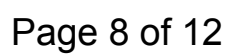

Fig: 1.5 Circuit Diagram for Familiarisation of Wattmeter
- 1) Make connections as shown in Fig.1.5 using the lower current range and lower voltage range of wattmeter.
- 4) Change the current coil setting to another range and record the wattmeter reading in TABLE-I. You may repeat steps (2), (3) and (4) for different values of the variac output voltage and different currents through the resistance.
1.	Current coil terminal “ M ” connected to Pressure coil “ COM ” terminal as in Fig.1.5